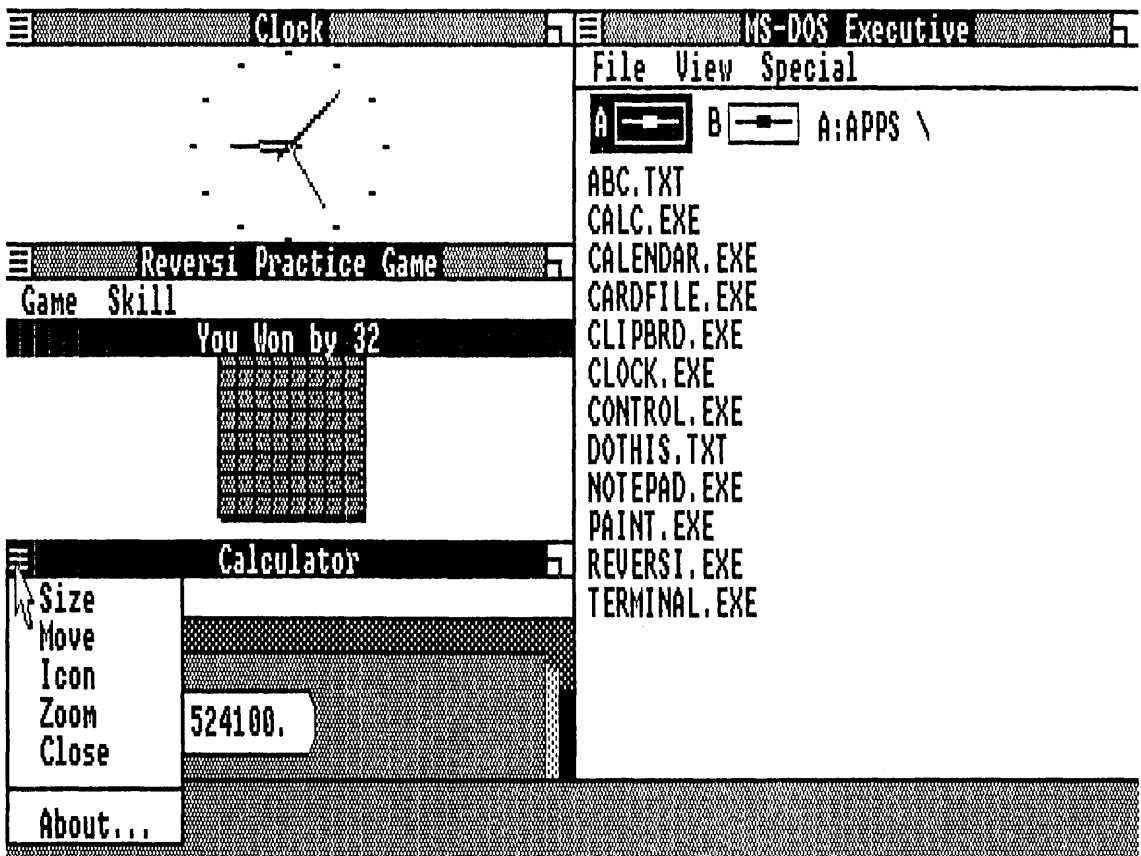

Fig. 9-3. The System Menu is displayed on the Calculator window.
**System Menu.** This menu, which is represented by an icon located in the upper left corner of each application window, remains constant throughout all Windows applications (Fig. 9-3).